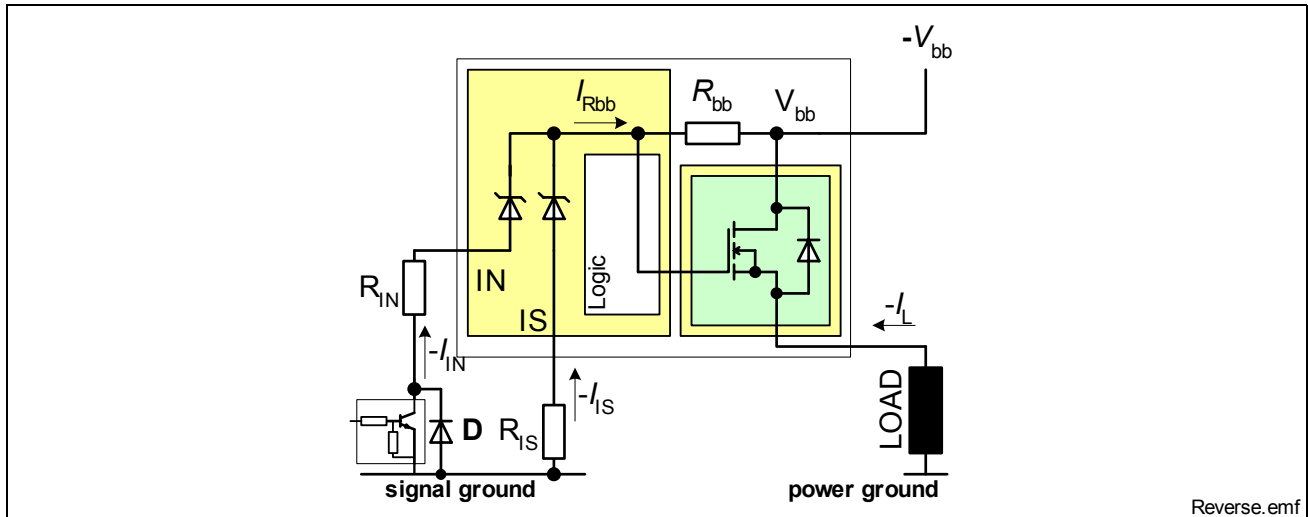

Figure 14 Reverse battery protection
- 3) Slew rate limitation can be achieved by means of using a series resistor for the small signal driver or in series in the input path. A series resistor R_{IN} in the input path is also required for reverse operation at $V_{bb} \leq -16V$. See also Figure 14.
The device can not block a current flow in reverse battery condition. In order to minimize power dissipation, the device offers Reversave™ functionality. In reverse polarity condition the channel will be switched on provided a sufficient gate to source voltage is generated $V_{GS} \approx V_{Rbb}$. Please refer to Figure 14 for details.